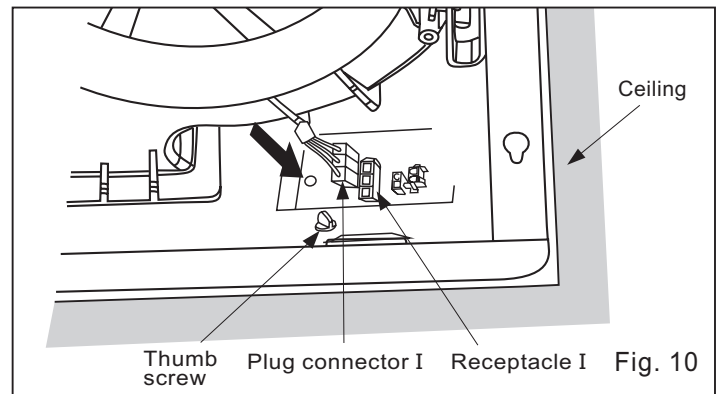

Fig. 10
6. Secure the fan body to adaptor by using thumb screw and plug connector to receptacle. (Fig.10)
5. Secure the adaptor to fan body by using thumb screw. (Fig.10)
8. Secure the blower. (Fig.12-4) and plug connector to receptacle. (Fig.10)